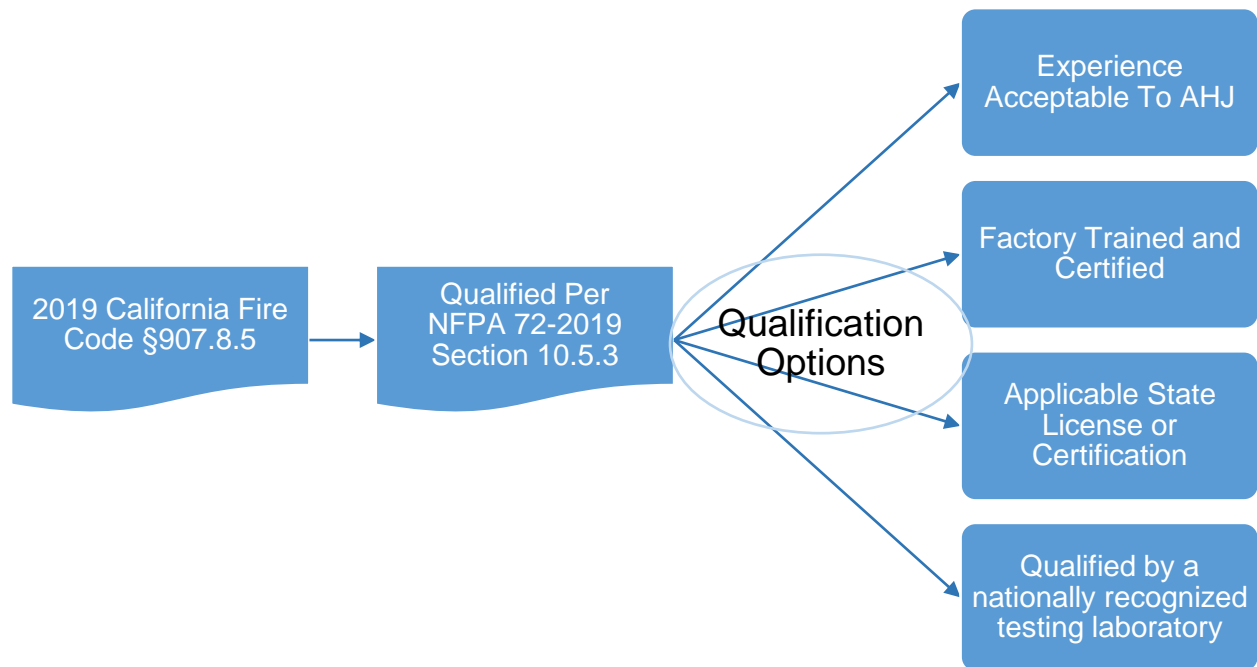

Figure 2 - Fire Alarm Control System Personnel Requirements
- a. As outlined in Figure 2, service personnel shall meet the qualification requirements of NFPA 72 for inspection, testing and maintenance of fire alarm control systems (2019 CFC § 907.8.5).